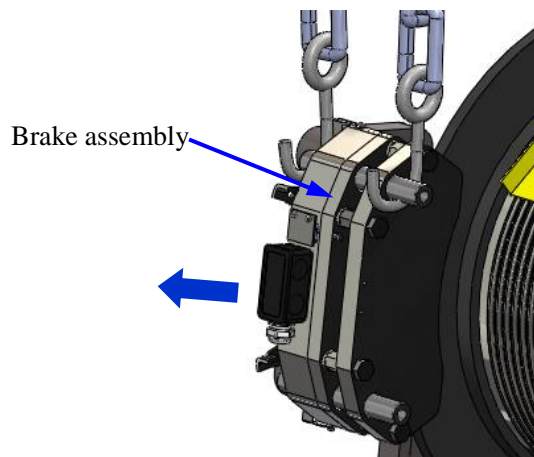

Figure 27: Brake removal
4. Open the brake, and then remove the brake assembly. See Figure 27.
3. Apply Loctite on bolt M16 as Figure 27 shows. Tighten bolt to 110 ft-lbs. See Figures 30 and 31.